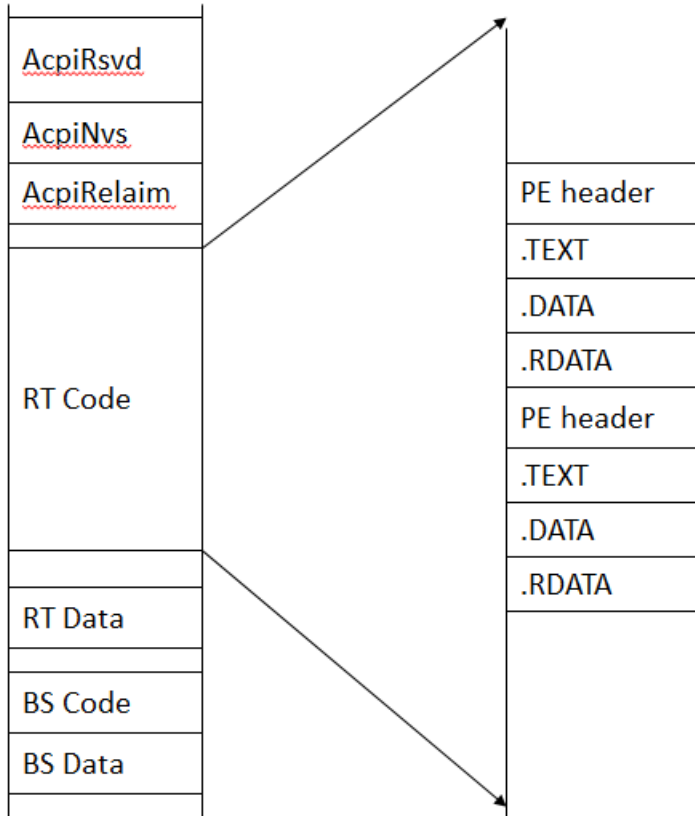
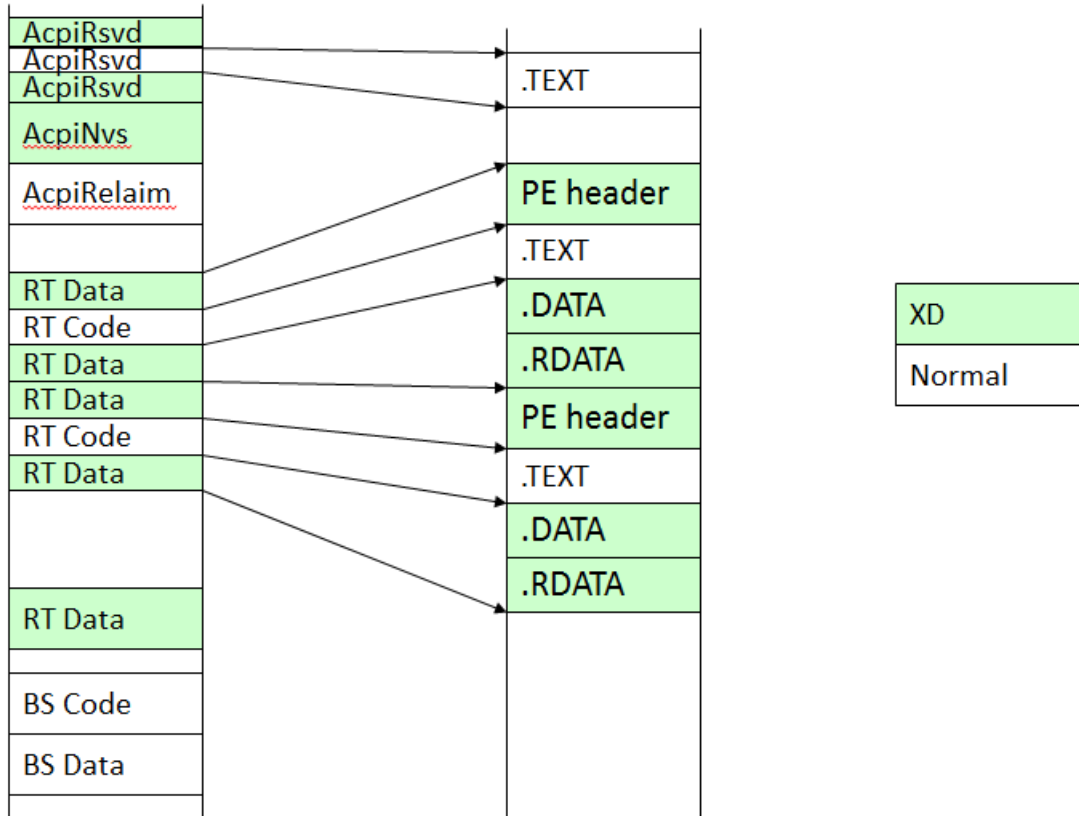

Figure 4
Figure 5
- 1) The old UEFI memory map only has one RuntimeCode entry. It includes both code segment and data segment in PE image. (See figure 4) The new UEFI memory map splits the PE image and uses RuntimeCode for code segment, and RuntimeData for PE header and data segment. (See figure 5) Then the OS may have a chance to set DEP for this runtime image.